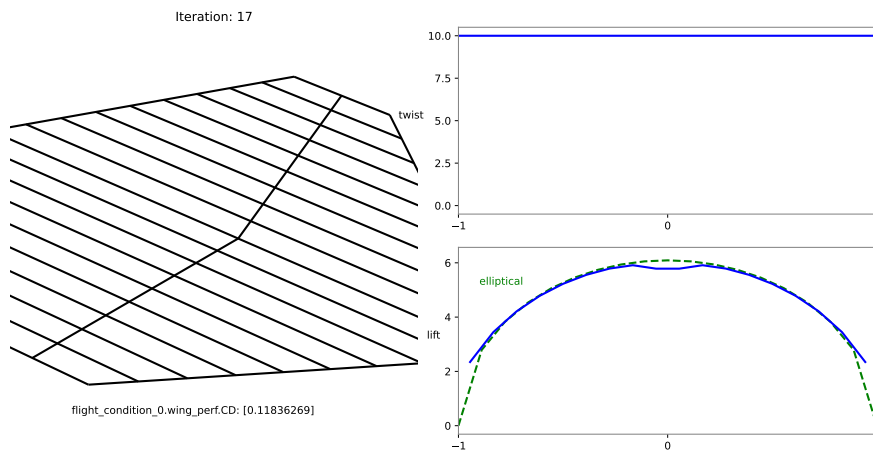

Figure 1: Optimized Visualization of the Wing
The optimization process ran for 18 iterations and terminated with a 'FAIL' status, suggesting that the solution did not fully converge within the specified tolerance and maximum iteration limit. The final drag coefficient (CD) achieved was approximately 0.1184. The figure 1 shows the optimized visualization of the wing.